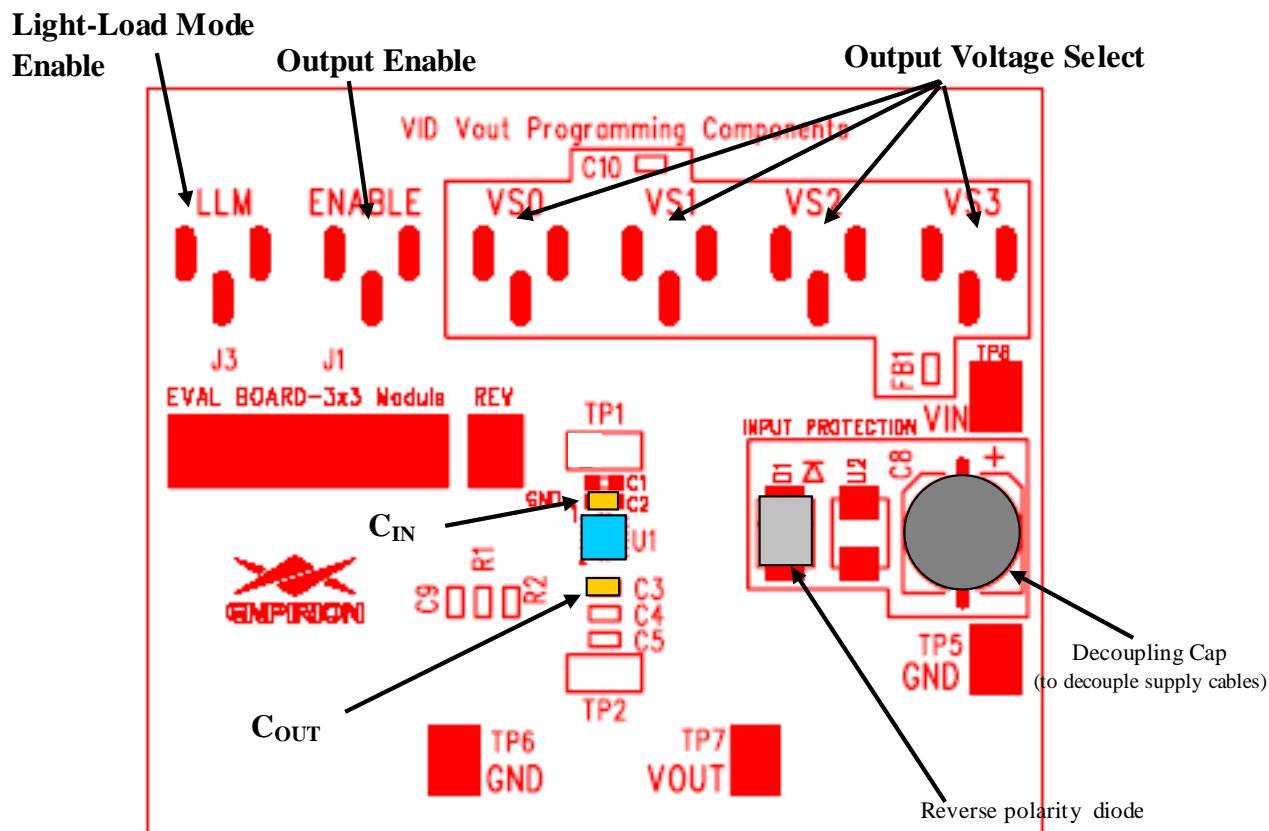

Figure 1. Evaluation Board Layout.
This application note describes how to test the following EP53x7xQI converters using the Altera Enpirion 3x3 Module EVAL BOARD shown in Fig. 1: EP5367LQI, EP5367HQI, EP5387LQI, EP5387HQI, EP53A7LQI, and EP53A7HQI. In addition to this document you will also need the device datasheet.
STEP 2: Connect a power supply to the input test points, TP8 (+) and TP5 (-) as indicated in Figure 1. The same test points can also be used to measure the input voltage.
STEP 4: Connect the load to the output connectors TP7 (+) and TP6 (-), as indicated in Figure 1. The same test points are also used to measure the DC output voltage.